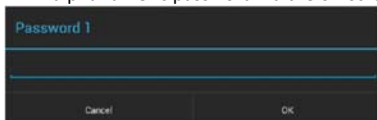

FIG. 34 Password 1 window
1. In the G5 Settings page, under PASSWORD PROTECTION, press **Password 1** to open the Password 1 window to enter a new alphanumeric password via the on-screen keyboard (FIG. 34):